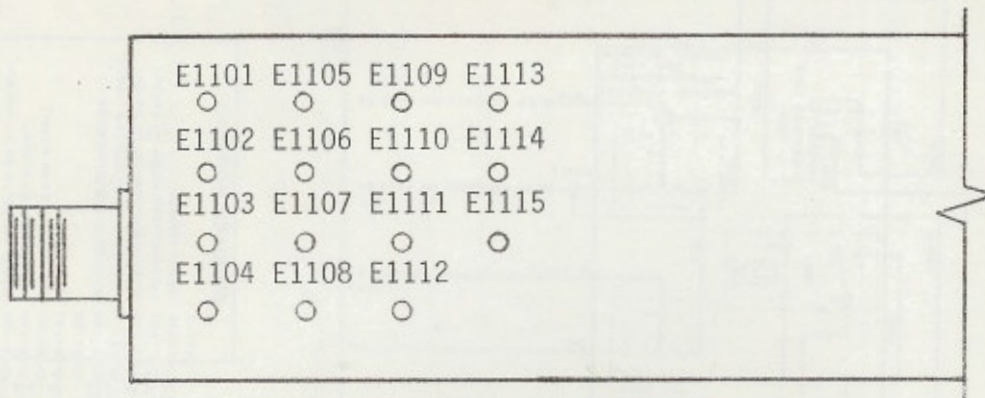

FIGURE 2
- 4.7 OTHER CONNECTIONS - If you have the basic version of the SCR500 without front panel metering, see Figure 2 for additional connections which may be used if desired.